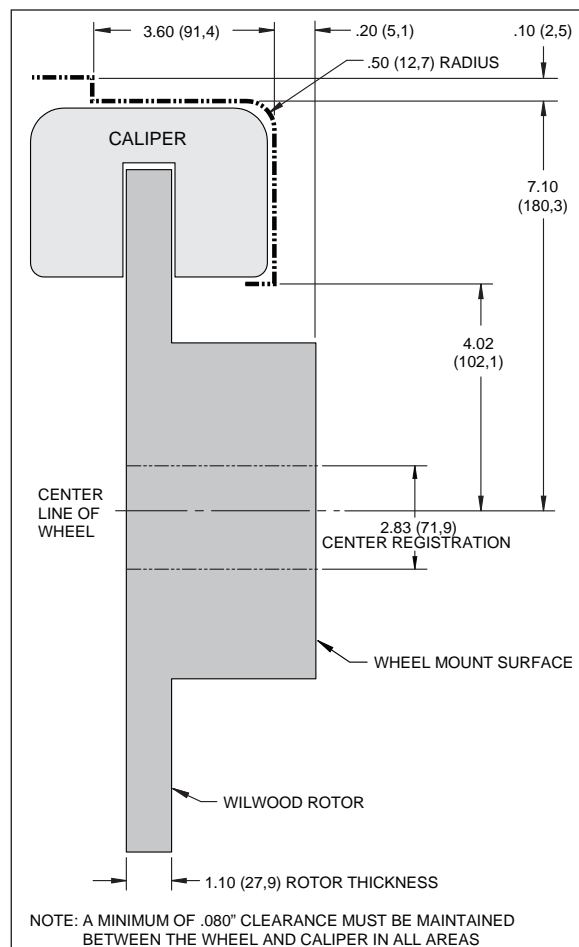

Figure 2. Wheel Clearance Diagram
• Verify your wheel clearance using Figure 2.